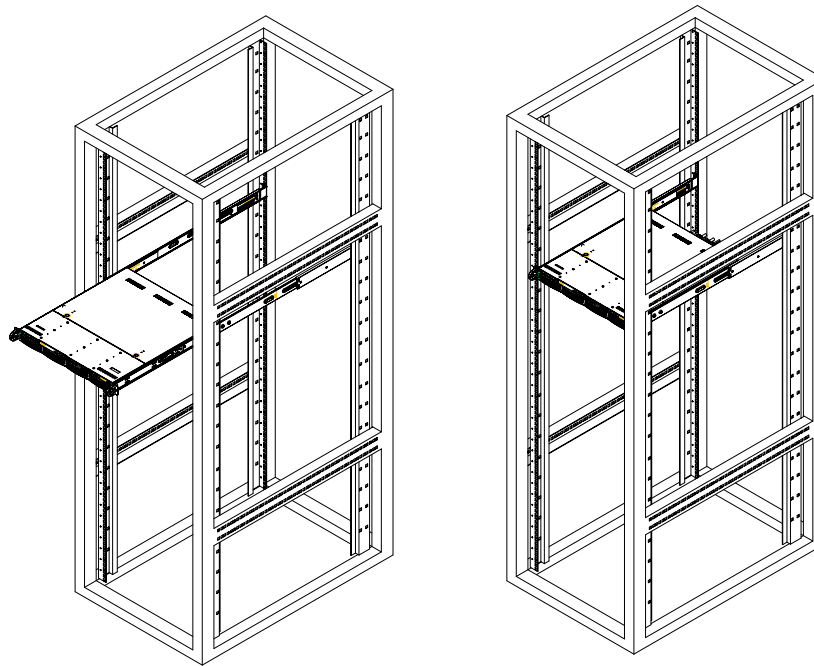

Figure 2-2. Installing the Server into a Rack
2. Screw the front chassis rail (the long piece) securely to the side of the chassis (see Figure 2-2). There should be two screws for each side. Repeat this procedure for the other rail on the opposite side of the chassis.
2. Slide the chassis rails into the rack rails, keeping the pressure even on both sides (you may have to press the locking tabs when inserting). See Figure 2-2.